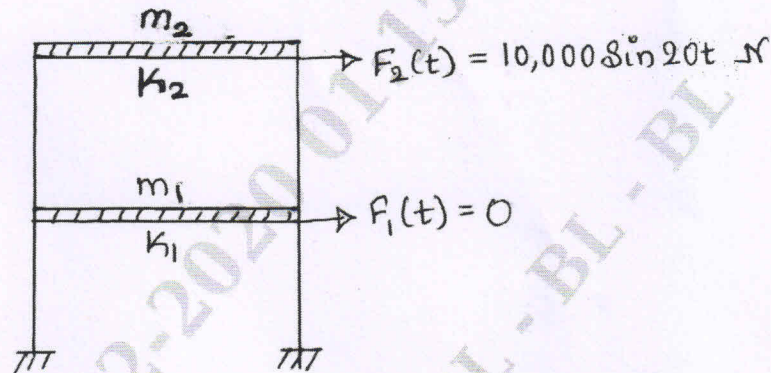

Fig.Q8
- 8 Compute the steady state response of two storied shear building as shown in Fig.Q8.